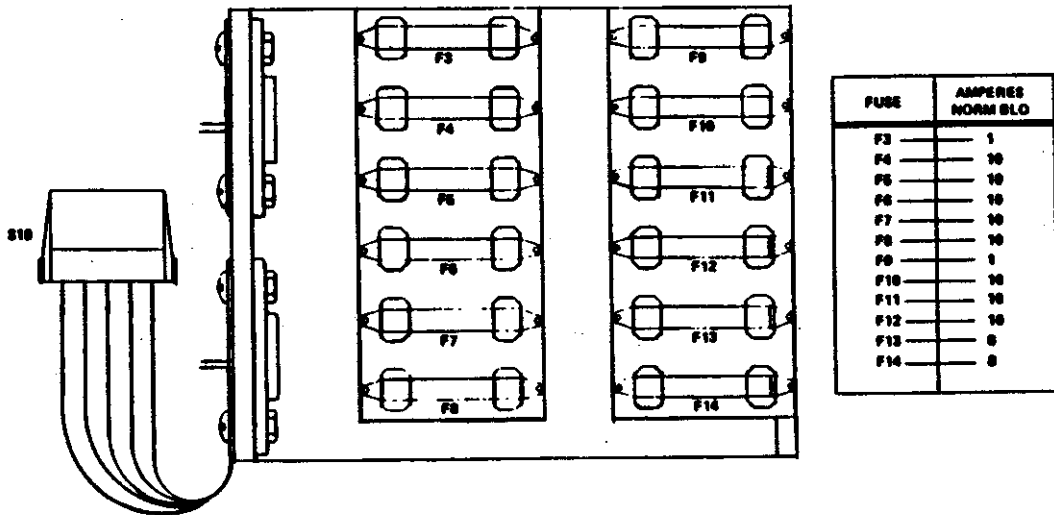

Figure 11 - Pass Transistor Fuse Blocks
1. Pass transistor fuse blocks (Figure 11).
3. Locate pass transistor fuse blocks (see Figure 11).
If after inspecting the pass transistor fuse blocks (see Figure 11), the 1 amp fuses, F3 or F9, were found open, a faulty component in the +6 regulator (fuse 3 open) or a faulty component in the -6 regulator (fuse 9 open) should be suspected. If any other fuse is open, its associated pass transistor is probably shorted and must be checked before the fuse is replaced and power restored. To check the pass transistors, the assembly must be removed from the main chassis.